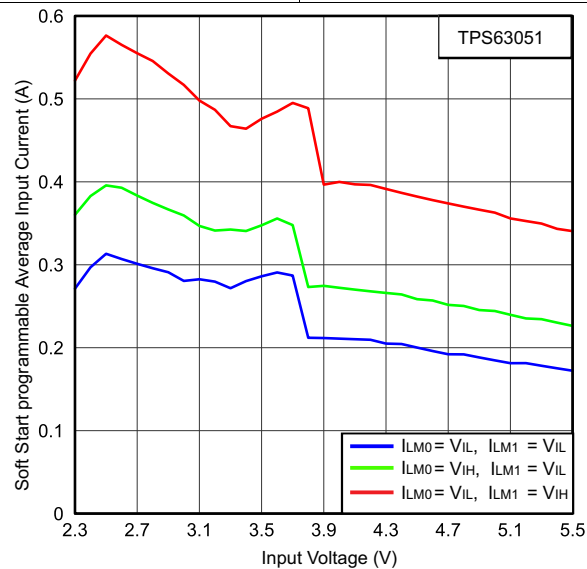

Figure 3. Programmable Average Input Current vs Input Voltage⁽¹⁾
(4) For variation of this parameter with Input voltage see Figure 3.
(1) For variation of this parameter with Input voltage see Figure 3.
To minimize inrush current and output voltage overshoot during start up, the device has a soft start. At turn on, the input current raises monotonically until the output voltage reaches regulation. The TPS6305x devices charge the soft start capacitor, at the SS pin, with a constant current of typically 1 μ A. The input current follows the current used to charge the capacitor at the SS pin. The soft start operation is completed once the voltage at the SS pin has reached typically 1.3 V. Figure 3 shows the value of the soft start capacitor in respect to the soft-start time.
The soft-start time in Figure 3 is referred to typical application with 10- μ F effective output capacitance.